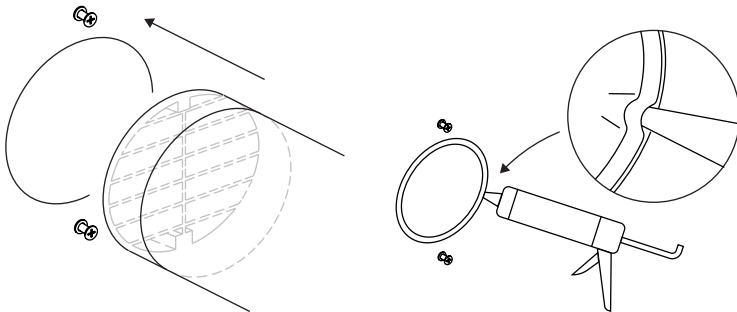

Figure 6.6. Installation of heat insulating tube
7. Install the tube into the air duct, directing the grid towards the outside (Figure 6.6). The veins of the grid should be directed downwards. Cut the end of the tube that protrudes into the room so that it is flush with the wall. Apply a neutral silicon sealant along a continuous line between the air duct and the tube from the room side.